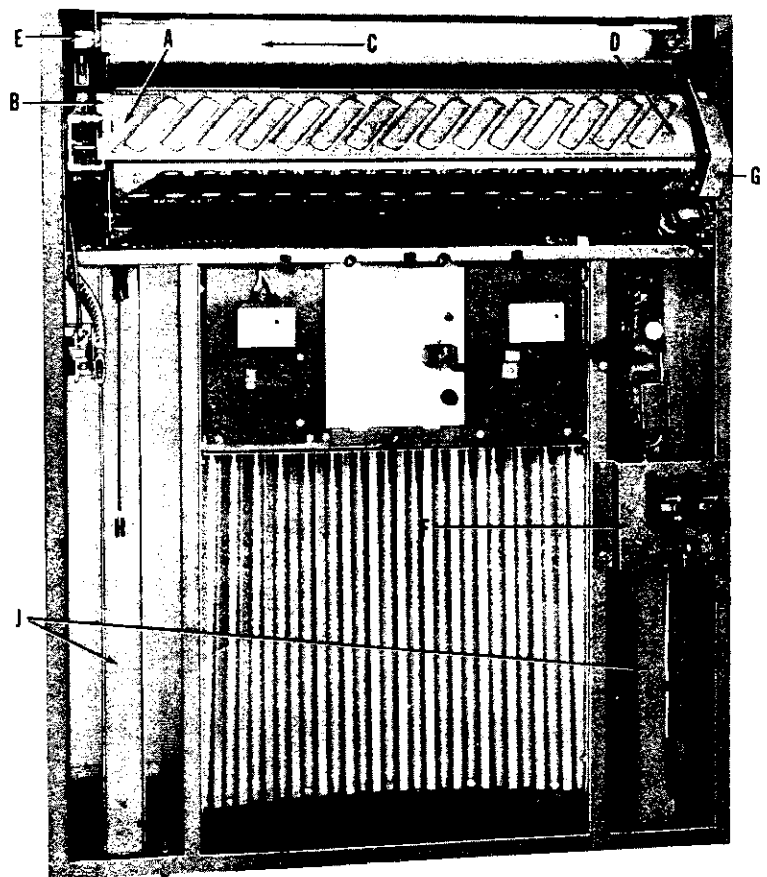

FIG. 3—Inside View of Front Door
1. Three 20-watt fluorescent tubes supply lighting in front door. Upper tube shown at (C-Fig. 3). Starter (E-Fig. 3) is located at door lock side of lamp.
2. Side tubes are shown at (J-Fig. 3). To replace left side tube (J-Fig. 3) lift lock latch (H-Fig. 3) at top of tube bracket. Raise tube bracket slightly and pull out. Remove wing screw at bottom of bracket for access to fluorescent tube. Right side tube can be similarly removed after socket bracket (F-Fig. 3) has been removed.
1. Two complete sets of classification tabs (8 to set) with adhesive backs, are supplied. Remove protective cloth from tab to expose adhesive, and press firmly to upper left and lower right of program panel (AD-Fig. 3).
2. To facilitate programming, tilt program holder back by applying slight downward pressure on bracket at (G-Fig. 3).
3. In this position, two title strip holders (B-Fig. 3) can be removed from the program panel, to facilitate changing title strips. Pull out title strip holders, (B-Fig. 3) insert title strips and return title strip holder into program panel.
5. After title strip holders have been returned to program panels, move bracket (G-Fig. 3) forward, and allow program holder assembly to return to original position.